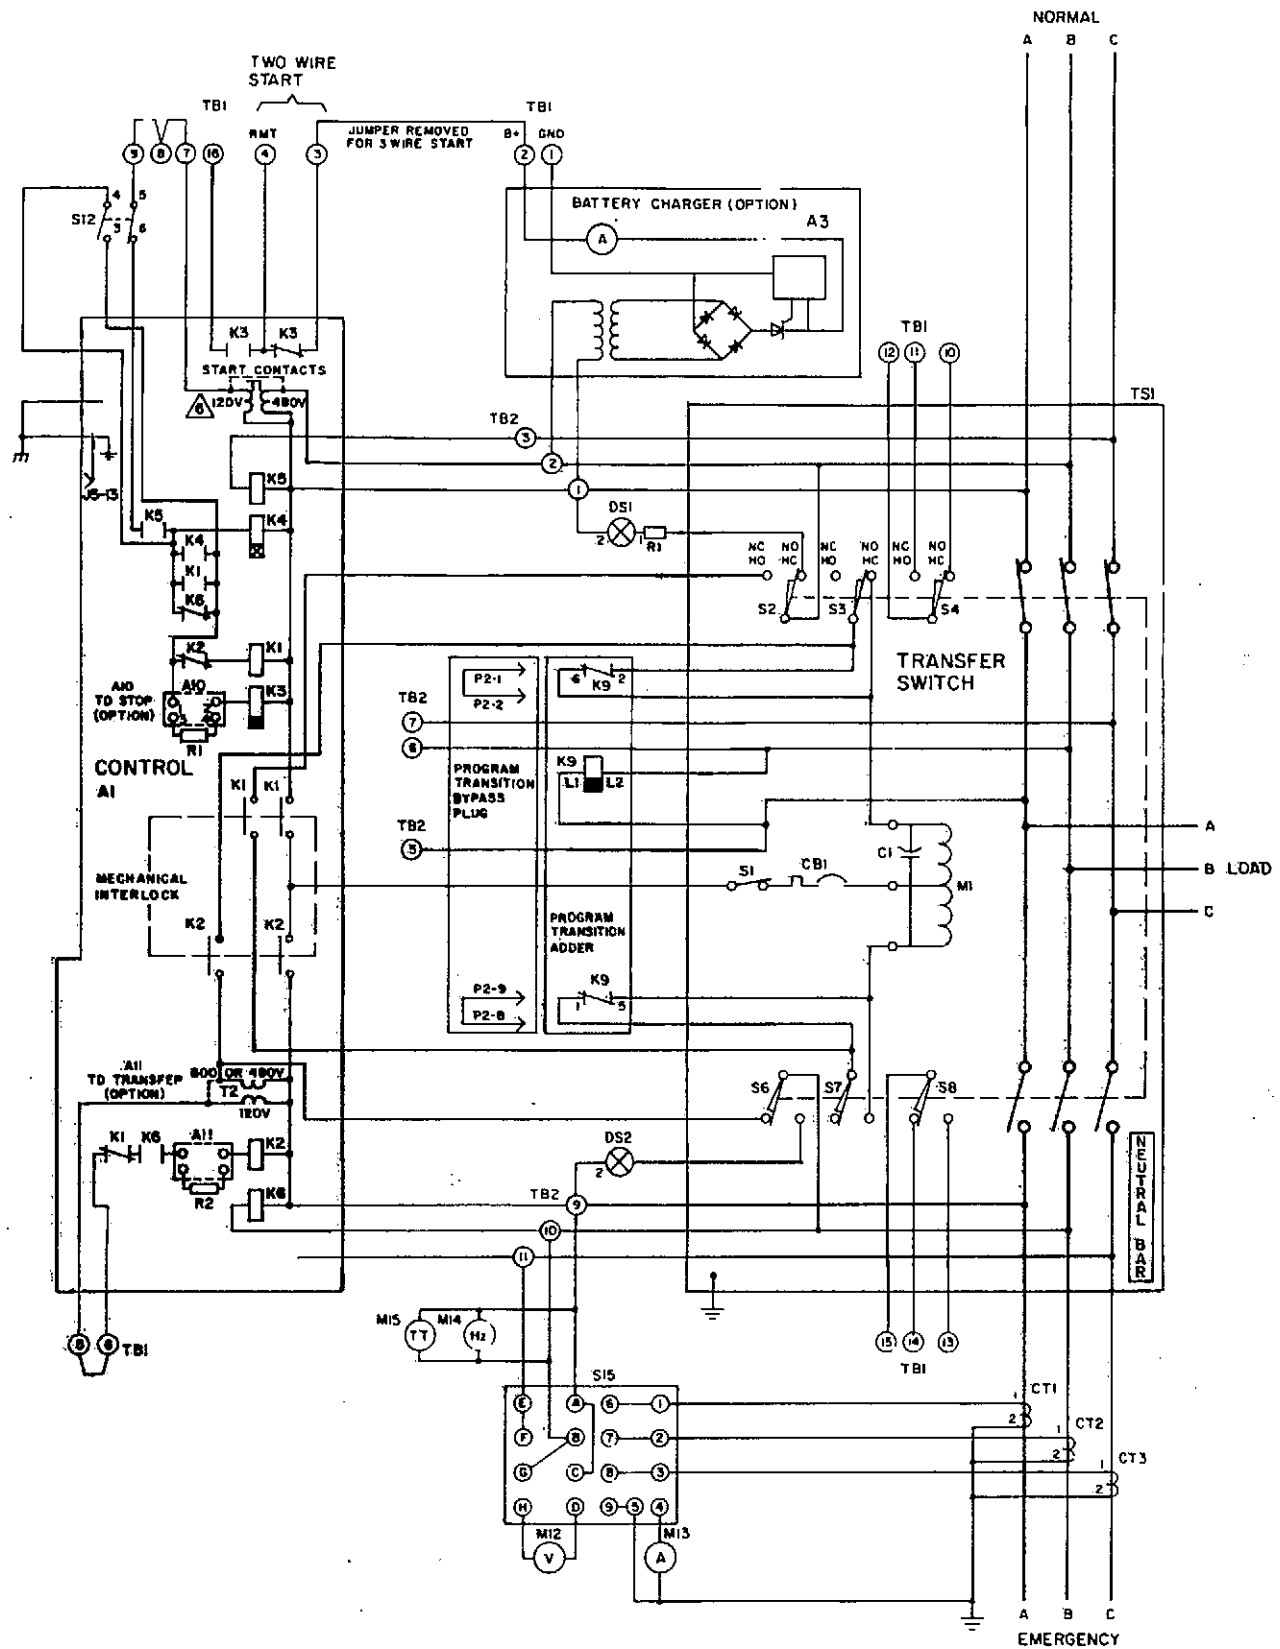

FIGURE 6. TYPICAL RELAY CONTROL SCHEMATIC
Figure 6 is a schematic of a typical three phase transfer switch with the start, transfer, retransfer, and stop time delay options. Refer to Figure 6 as the operational sequence of each component is described. Relay contact references normally open (NO) and normally closed (NC) refer to the position of the contacts when the relay is de-energized.